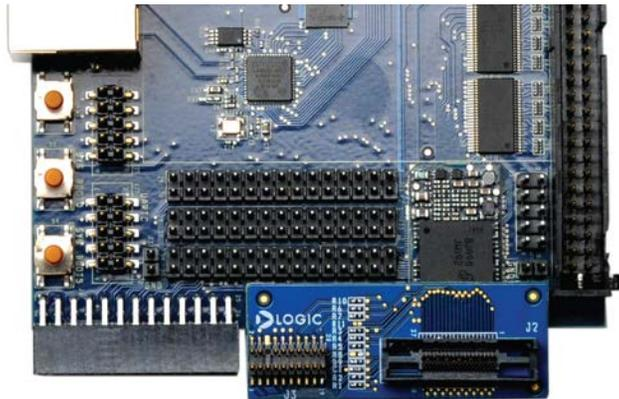

Figure 7.2: ETM Adapter Board Connected to SOM
4. Press straight down on the ETM adapter board directly over the connectors to mate the two boards. See Figure 7.2 for the final position of the connected ETM adapter board to the SOM.